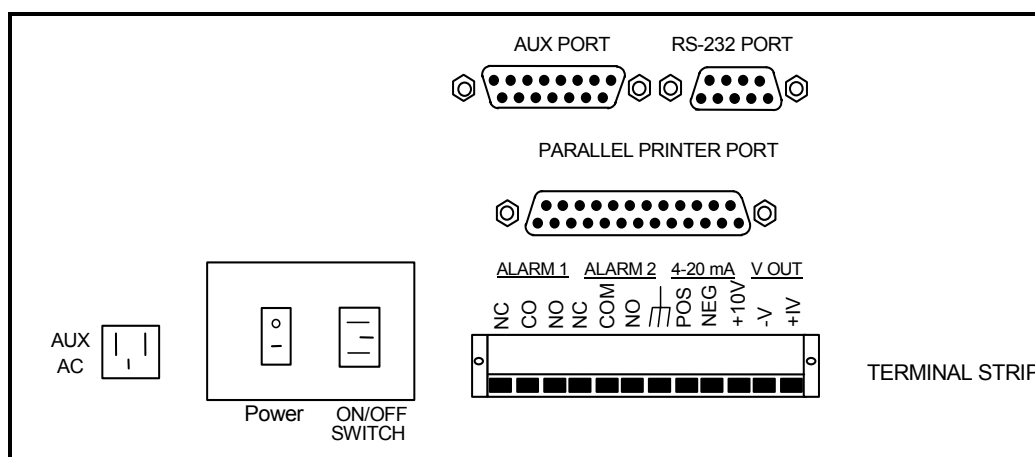

FIGURE 4-4: Output Connectors for the 800/810 Analyzer
The output connectors are located on the left-hand side of the analyzer (see Figures 4-4 & 4-5). The long green connector is a terminal strip for the analog and alarm outputs. The parallel printer output is the 25-pin female connector and the 9-pin female is the RS-232 computer output.
The analyzer has a 25-pin parallel (Centronics) printer port for the direct output of results to a printer. Connect the proper cable for the printer, optional, to the printer port (see Figures 4-4 or 4-5) and secure with screws. The cable is a standard computer-printer cable and can be found at local computer stores. The printer must be IBM compatible or Epson FX 850 compatible. See Appendix B for CE Mark Specifications.
1. Connect the AC power cord to the left-hand side of analyzer (see Figures 4-4 and 4-5), and plug in the cord.